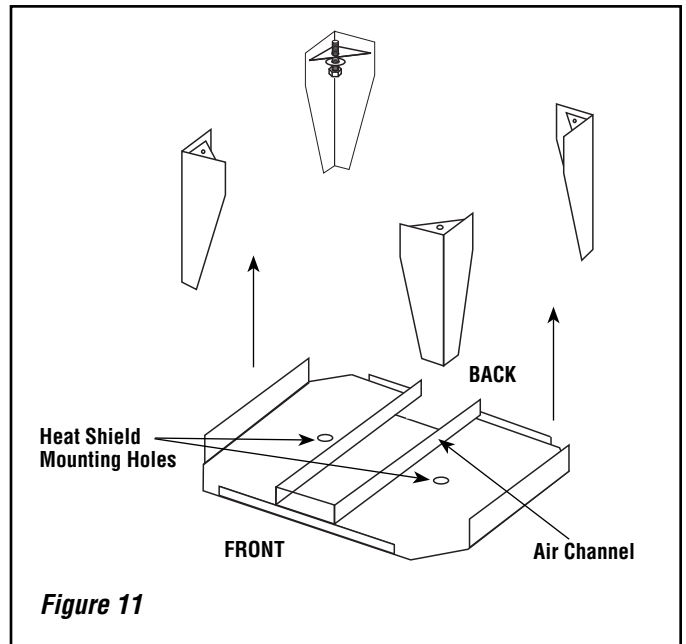

Figure 11
4. Use the two bolts and washers provided with the heatshield kit to mount the heatshield as shown in **Figure 11**.